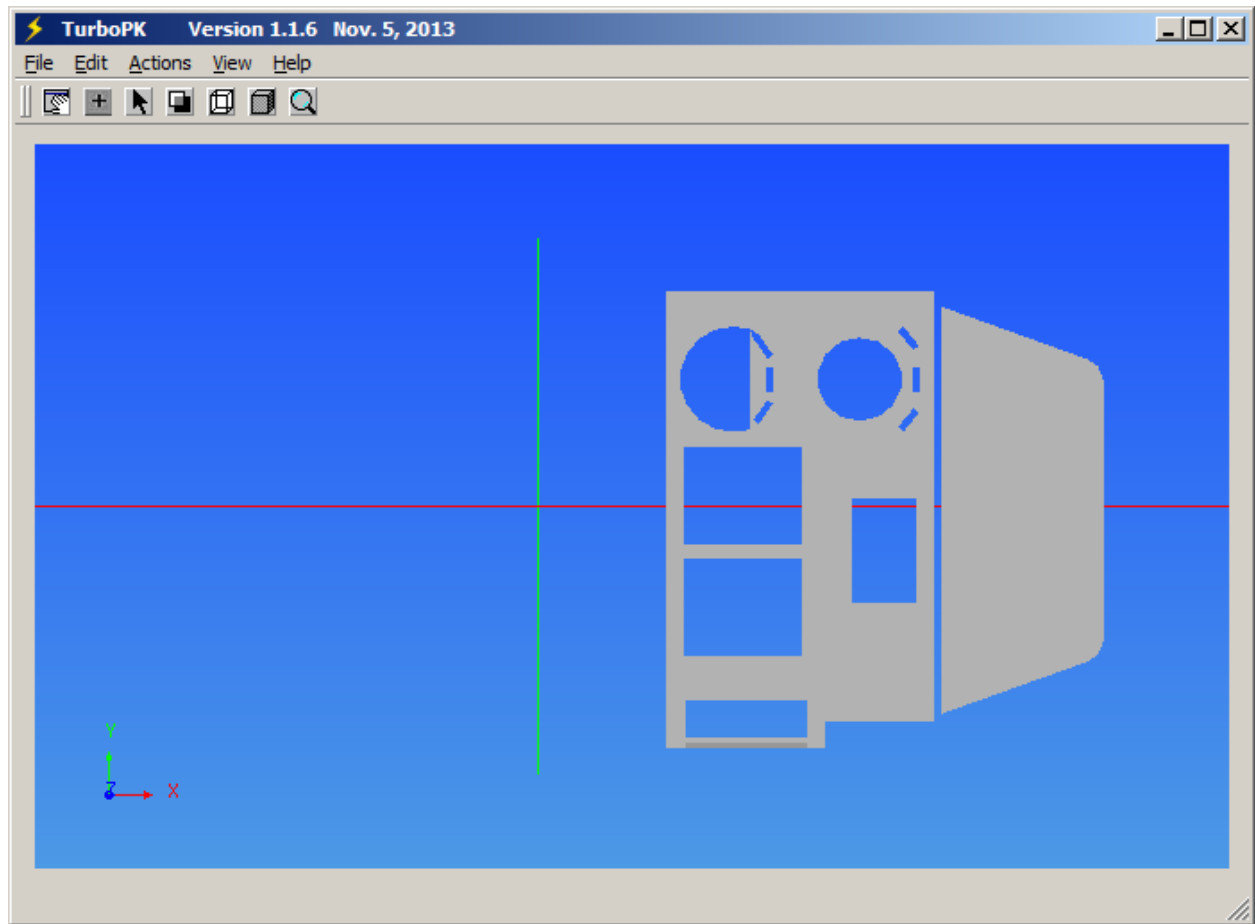
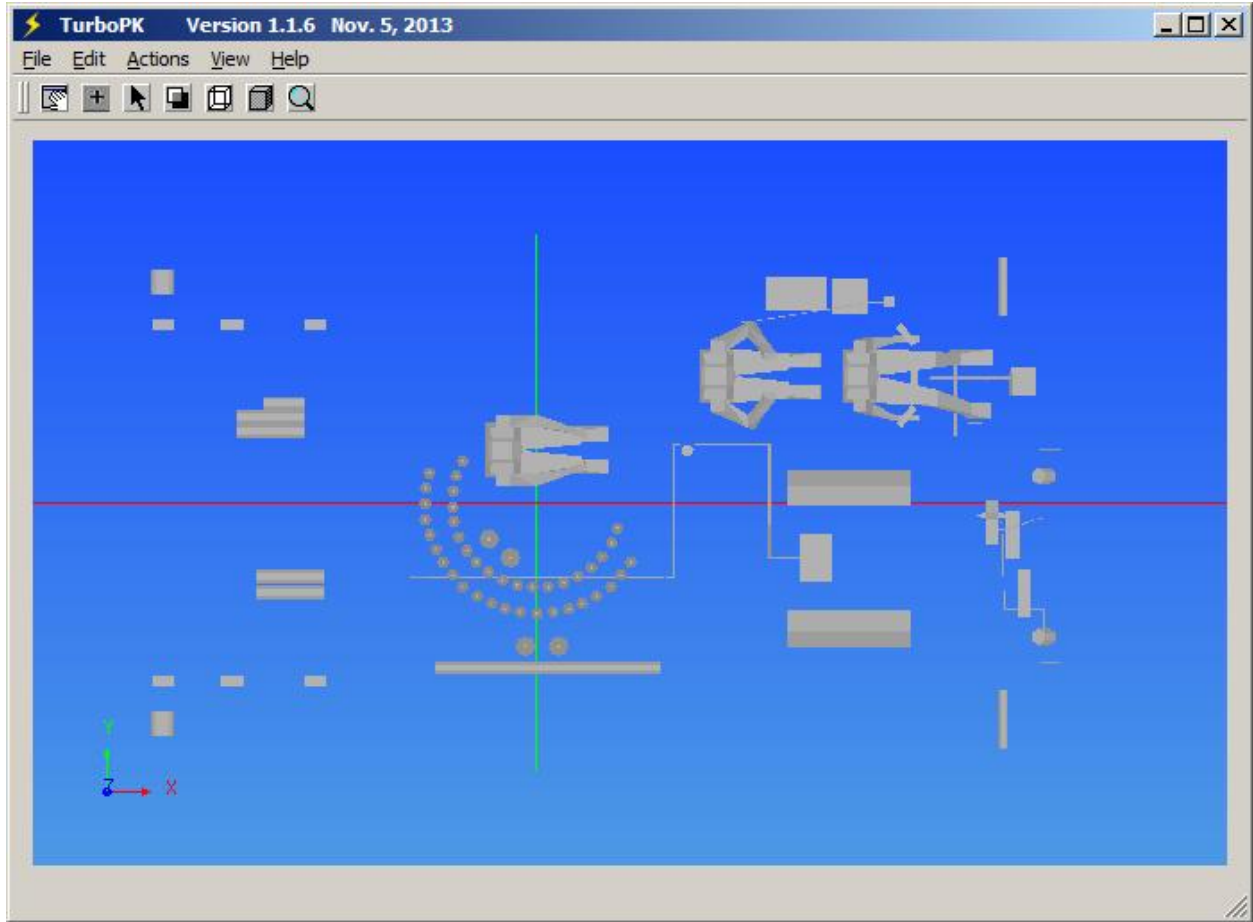

Figure 75 - Blast vulnerable geometry
Figure 76 - Fragment vulnerable geometry.
The **View** menu has been modified to allow the user to display (1) all geometry, (2) all vulnerable geometry, (3) blast-vulnerable geometry, and (4) fragment-vulnerable geometry. Figure 75 shows the blast-vulnerable geometry defined by the example vehicle model. Figure 76 shows the fragment-vulnerable geometry for the same target. Of course, more than the handful of panels shown in Figure 75 are typically blast-vulnerable, and in many cases components are vulnerable to both blast and fragments.